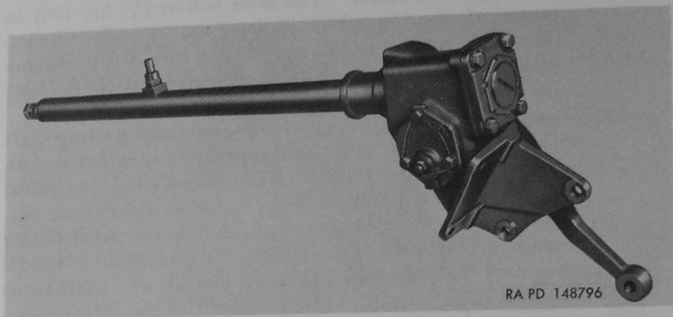

Figure 186. External view of steering gear assembly.
*a. Cleaning Assembly.*—Clean exterior of entire steering gear assembly (fig. 186) with dry-cleaning solvent or volatile mineral spirits before attempting to disassemble the unit.